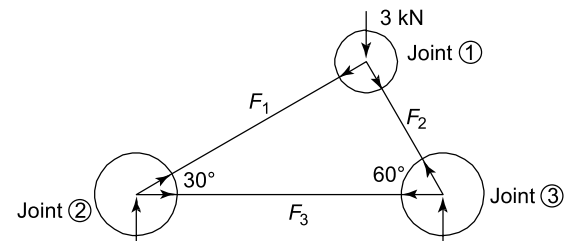
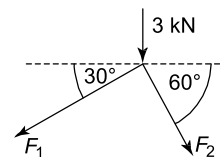

Figure 7.27
Figure 7.28
Firstly, assume all unknowns are in tension, as shown in Figure 7.27.
Next, make imaginary cuts around the joints, as shown by the circles in Figure 7.27. This action will give us three free body diagrams. The first we consider is around joint (1), because this joint has only two unknown forces; see Figure 7.28.